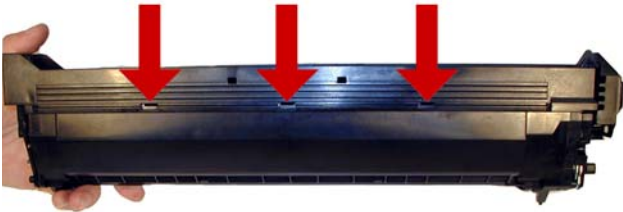

Figure 53
31) Install the toner hopper and two inside screws. Make sure the three tabs are locked in place. See **Figure 53**.